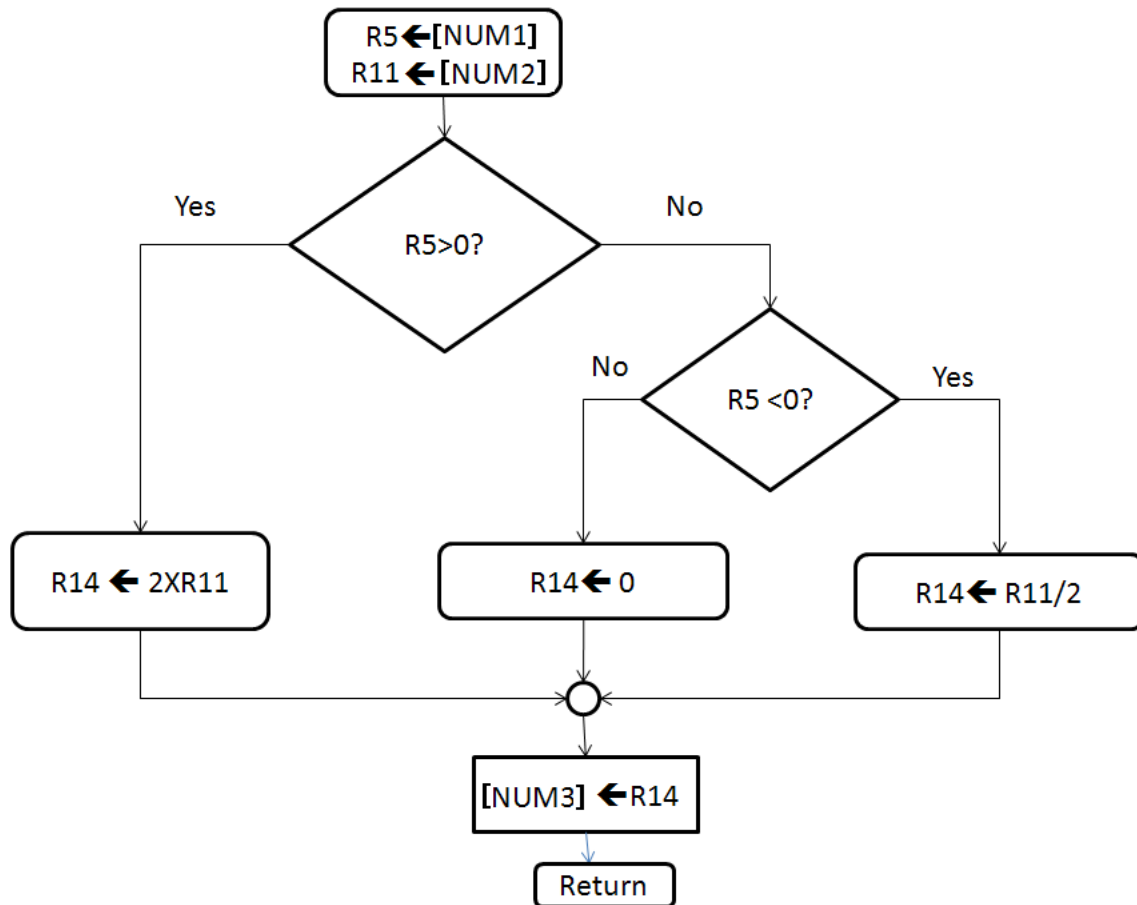

Figure P. 2: Flowgraph for subroutine.
**Problem 2.** Two word-size signed data stored in memory locations named NUM1 and NUM2 are to be used in a subroutine to generate a third signed number to be stored in location NUM3. The flow graph shown in Fig. P. 2 shows the steps to generate and store the new number. Use this flow graph or an equivalent one (you have to show it!) to generate the assembly code for your subroutine (include comments!). [NOTE: Remember that shifting or rotating left or right we can multiply or divide by 2.]